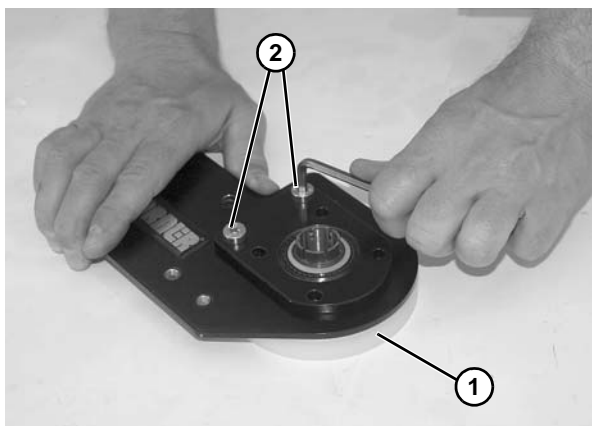

Figure 49
- Check drive terminal assembly (**Figure 49, item 1**) for wear. If worn, remove two low head cap screws (**Figure 49, item 2**) and replace.